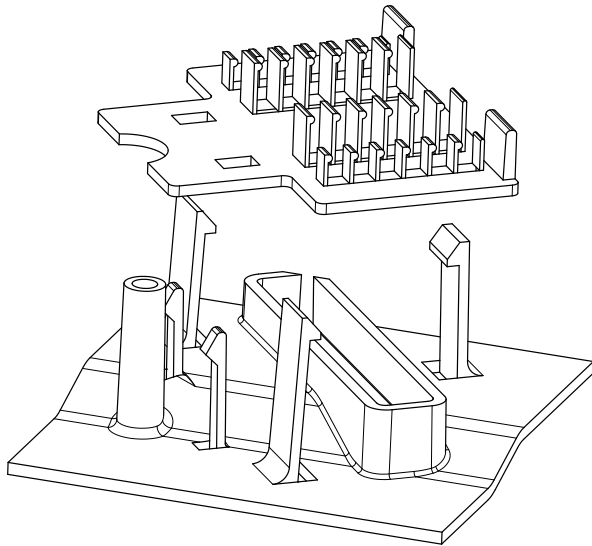

Fig.2
- Align the splice holder with the outward snaps of the housing shown in the figures below. (Fig.2)